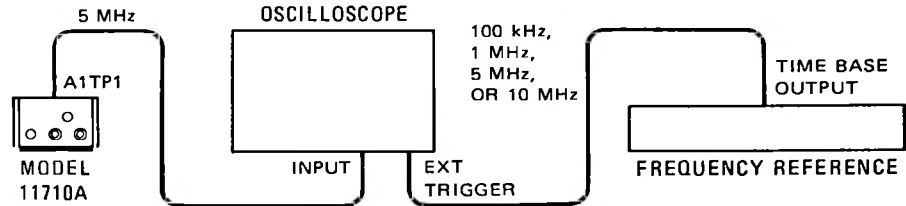

Figure 7. Local Oscillator Frequency Adjustment Test Setup
- b. Connect equipment as shown in Figure 7. Set oscilloscope to display 5 MHz LO signal triggered externally from the frequency reference. Set horizontal scale for 0.1 μ s per division.